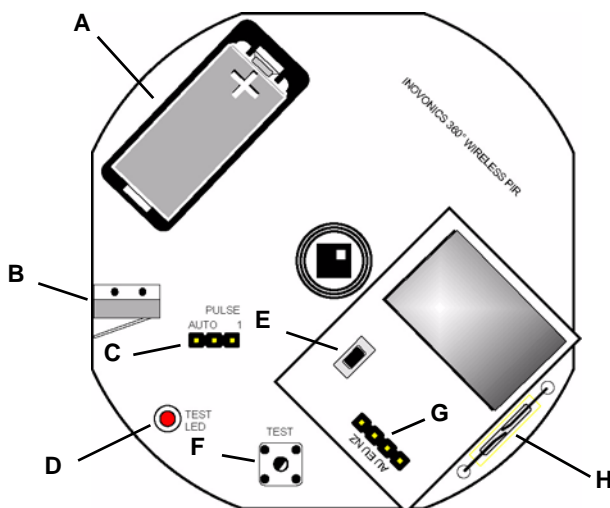

Figure 2 ES1265 Components
2. Install the battery (Fig 2).
1. Place a selection jumper on the appropriate frequency band selection pins (Fig. 2).